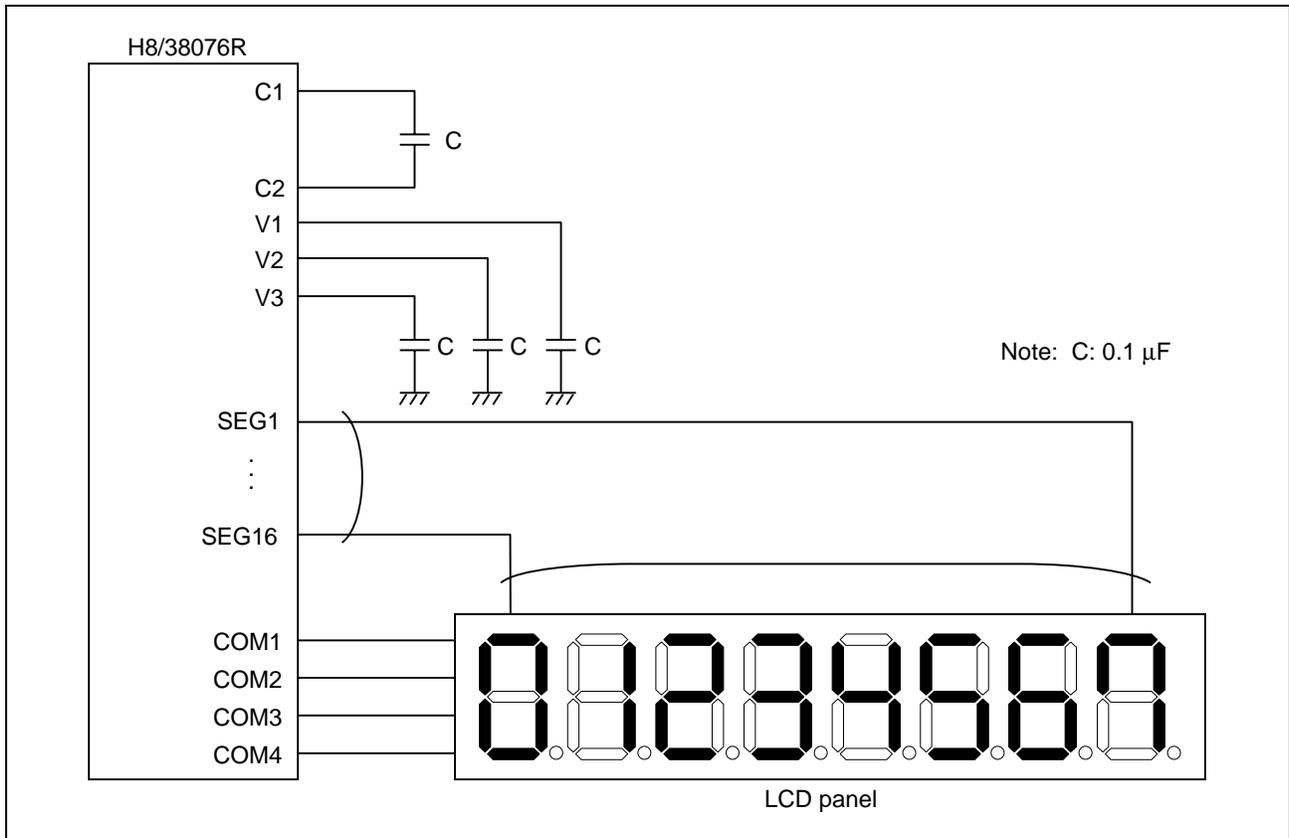

Figure 1 Example of LCD Panel Connection
- An example of connection between the H8/38076R and the LCD panel is shown in figure 1.